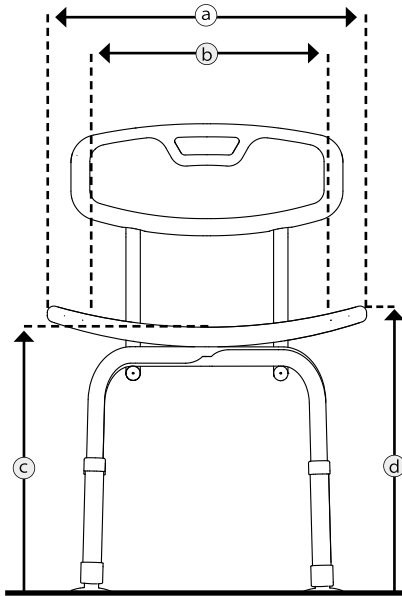

Abb. 6
2. Sit in the middle (Fig. 6, 1) between the recessed grips (left/right, Fig. 6, 2) on the seat surface. If necessary, have someone help you sit down or stand up.